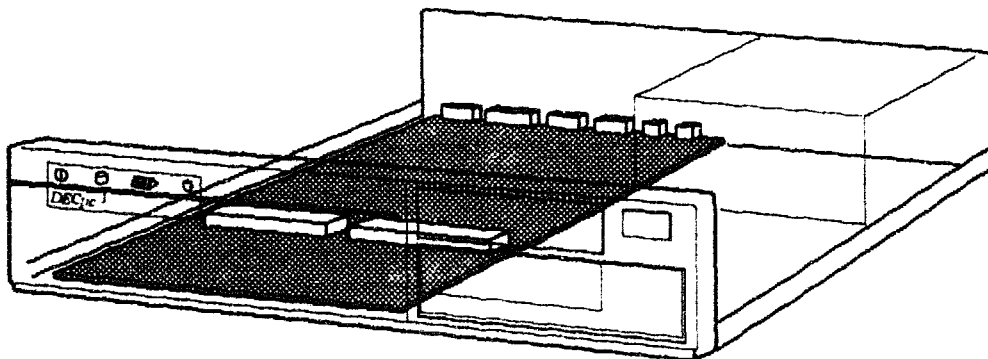

Figure 3-49 - Placing the Main Board (and CPU Board) into the Computer's Chassis
2. Carefully place the Main Board (and CPU Board) into the computer's chassis, with the interface connectors facing the rear of the chassis (Figure 3-49). You do NOT have to remove the strut. However, you can remove the Front Cover if you need more room. See *Installing and Removing the Front Cover* given earlier in this chapter.